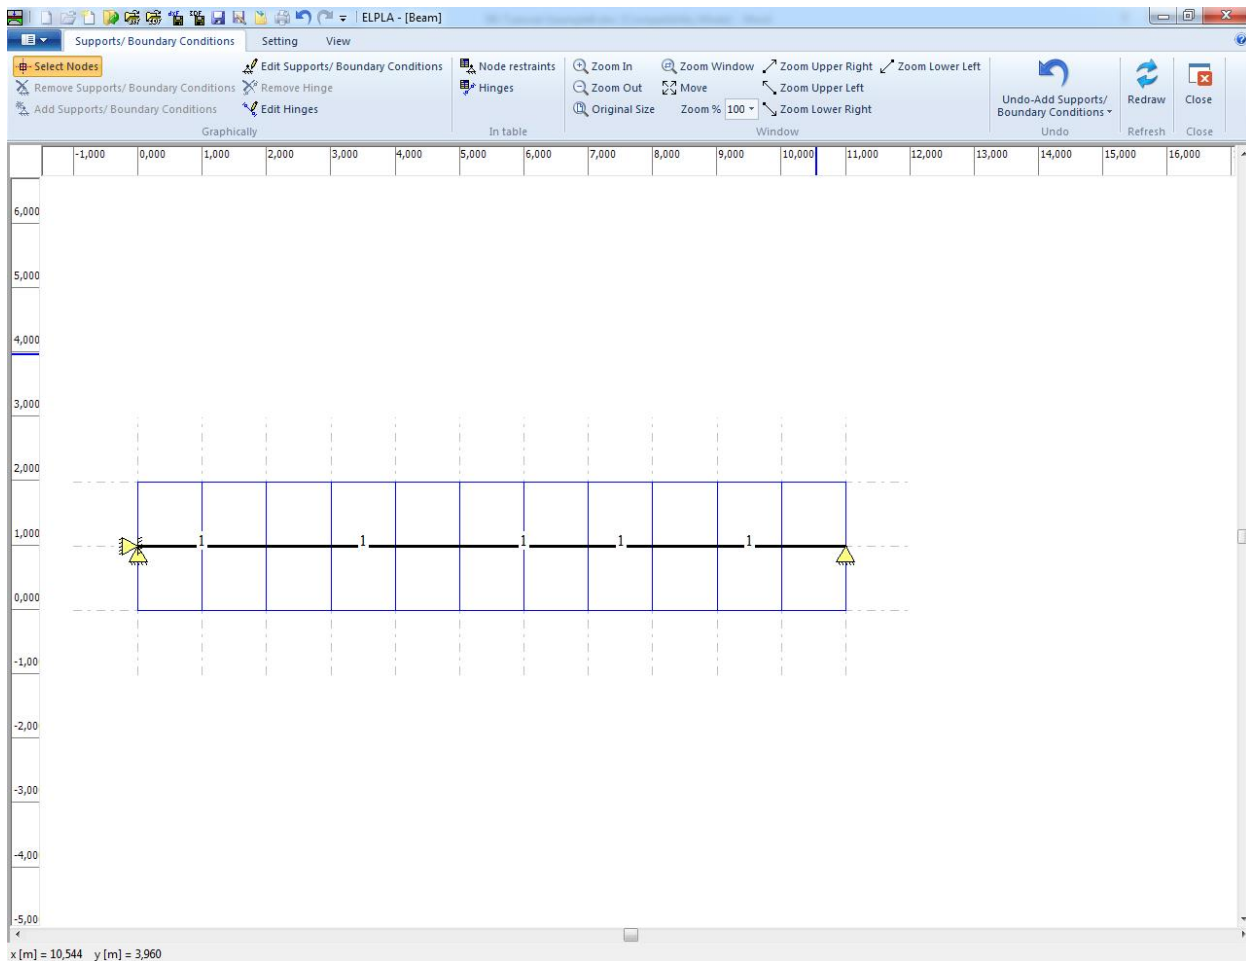

Figure 8.23 Supports
To define the roller support, repeat the steps used to define the fixed support except that the support is free to rotate and the displacement in x -direction is free. To make the rotation of the roller support is free, type "F" in the "Rotation Theta" instead of typing "0". To make the displacement of the roller support is free in x -direction, type "F" in the "Displacement u" instead of typing "0". After you have completed the definition of supports, the screen should look like the following Figure 8.23.
- Choose "Save" command from "File" menu in Figure 8.23 to save the data of supports
- Choose "Close" command from "File" menu in Figure 8.23 to close the "Supports/ Boundary Conditions" Window and return to *ELPLA* main window.